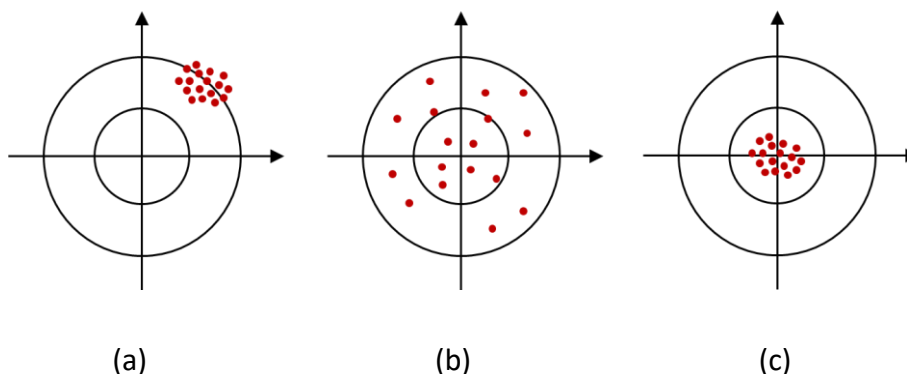

Figure 1. Precision and accuracy illustration
- (a) **Precision** – It is a measure of how well the result has been determined, without reference to its agreement with the true value, and it also reflects the random error. In figure 1(a), the data are precise and random error is small.
- (b) **Accuracy** –It is a measure of the correctness of the result and it reflects the systematical error. In figure 1(b), the data are accurate and systematical error is small.
- (c) **Precision and Accuracy** – The synthetic index is random error and systematical error. In figure 1 (c) the data are both precise and accurate. Random error and systematical error are both small.